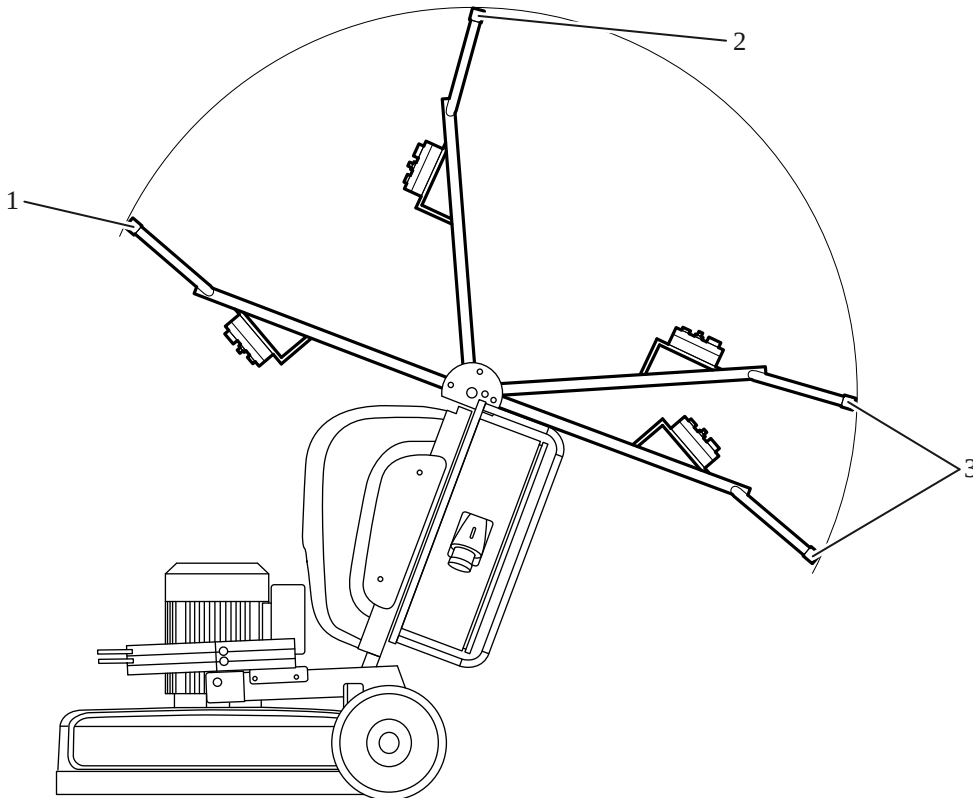

Figure 4-1 Handle settings
1. Set the handle to the rear position - see Figure 4-1 on page 16.
4. Set the handle to the working position, see Figure 4-1 on page 16.